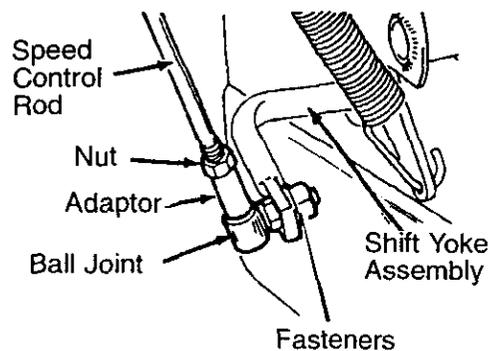

Figure 35
1. Loosen the **nut** on the **speed control rod**. See Figure 35.
6. Remove the **speed control rod** from the **shift yoke assembly**. See Figure 35.
15. Attach the **speed control rod** to the **shift yoke assembly**. See Figure 35.